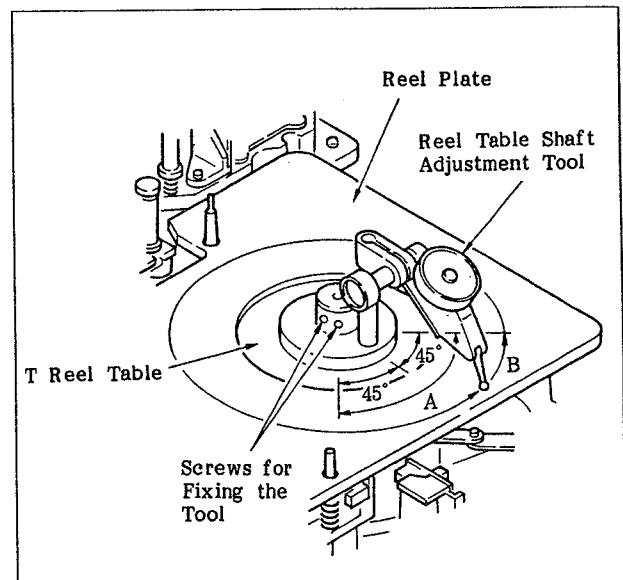

Fig. 6-33-1 Correcting the Deviation of the Reel Motor Shaft (1)
19. Set the reel plate and the reel table shaft adjustment tool. (Fig. 6-33-1)
20. Turn the reel table shaft adjustment tool in the direction of arrow B and check the pointer of the dial gauge indicates the maximum value in the range of A, shown in Fig. 6-33-1, and the difference between the maximum value and the minimum value of the dial gauge is less than 120 to 220 μm . If it is not, make the following adjustments. Remove the tool.